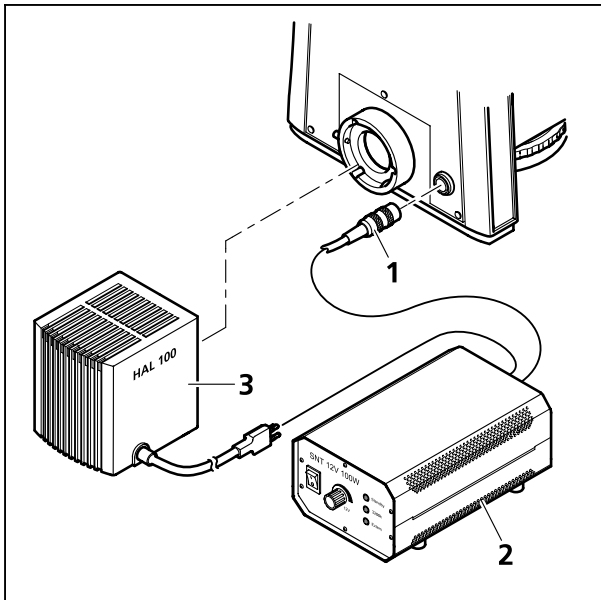

Fig. 3-36 Lower stand part for HAL 100 illumination
- Mount halogen lamp HAL 100 (Fig. 3-36/3) to the stand (see also chapter 3.1.15.1).
- Connect the 3-pin HAL 100 plug to the separate auxiliary power supply unit (Fig. 3-36/2).
- Connect the cable for light intensity control (Fig. 3-36/1) with the appropriate connecting socket on the back of the stand or on the auxiliary power supply unit (Fig. 3-36/2).